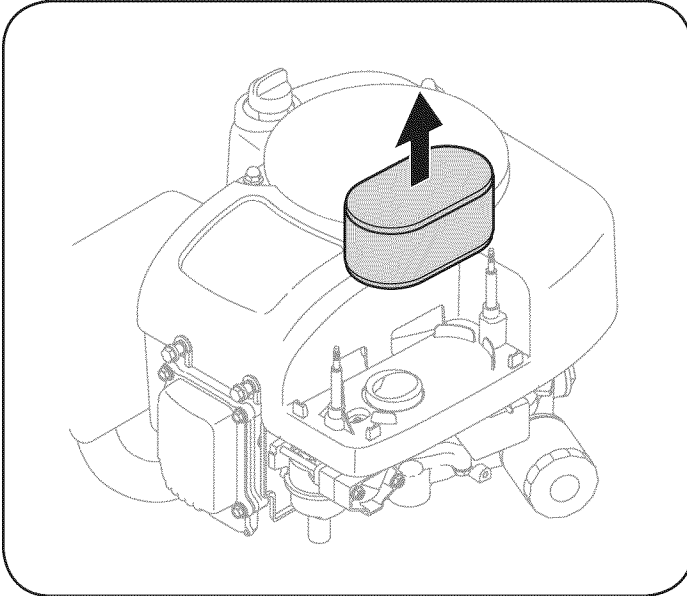

Figure 26
2. Remove the air filter. See Figure 26.